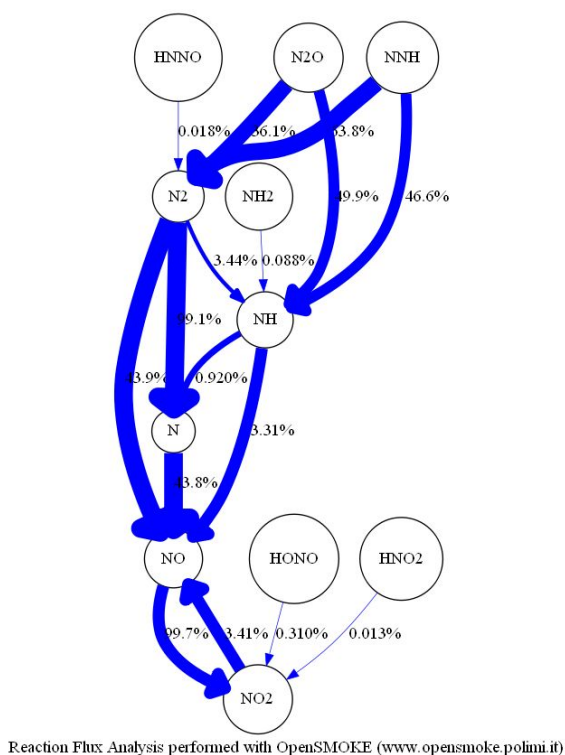

Figure 3.5: Adiabatic batch reactor: flux analysis (NO production, Element N, Depth 1, Width 4)
5. Eventually, you can also draw path diagrams through the **Flux Analysis** button (this feature is only available if you correctly installed Graphviz and Irfanview, as described in the previous Chapter). As an example, in the **Type** panel select the **Local** radio button and write 0.022 in the corresponding window (this is the time in seconds at which you want to perform the flux analysis). Select **N2** from the **Species** list, **N** element from the **Element** list, and **Production** from the **Type** panel. If you click on the **Flux Analysis** button, you should get the flux diagram reported in Figure 3.5.